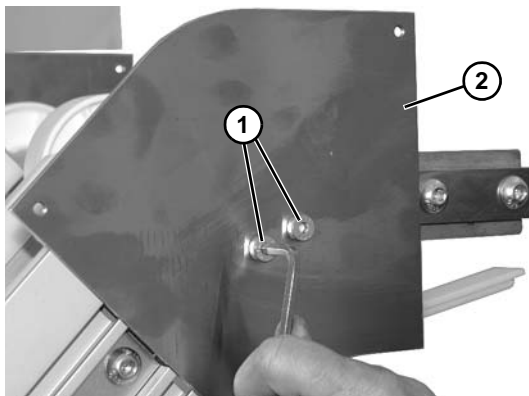

Figure 109
6. Remove two socket head screws (**Figure 109, item 1**) and remove cover plate (**Figure 109, item 1**) from knuckle assembly.